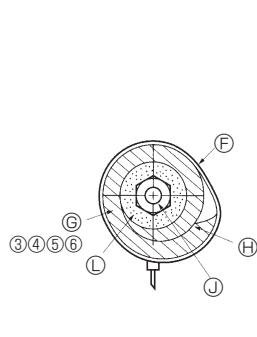
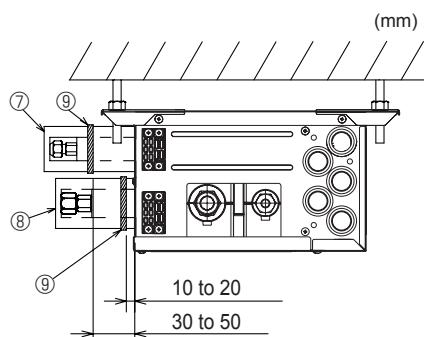

Fig. 7-3
Fig. 7-4
- (1) Remove the flared nuts and caps from the branch box.
- (2) Flare the ends of the liquid and gas piping, and apply refrigeration oil (procure locally) to the flared seat. Do not apply oil to the threaded portion.
- (3) Connect the refrigerant piping immediately. Always tighten the flared nuts to the torque specified in the table 2 using a torque wrench and double spanner.
- (4) Press the pipe covers ③ and ⑤ on the liquid piping against the unit and wrap to hold in place. (Fig. 7-3)
- (5) Press the pipe covers ④ and ⑥ on the gas piping against the unit and wrap to hold in place. (Fig. 7-3)
- (6) Apply the supplied bands ⑨ at a position 10 - 20 mm from each end of the pipe covers (③④⑤⑥).
- (7) If the indoor unit is not connected, fit the supplied pipe covers (with caps, ⑦ and ⑧) to the branch box refrigerant piping connections against the unit to prevent condensation dripping from the pipes. (Fig. 7-4)
- (8) Clamp the pipe covers (⑦⑧) in place with the supplied bands ⑩.
- ③ Band ⑨
- ④ Pipe covers ③④⑤⑥
- ⑤ Tighten
- ⑥ Refrigerant piping
- ⑦ Thermal insulation for refrigerant piping
► Use the following procedures for indoor connection part which indoor unit is not connected. (Fig. 7-4)
- (1) In order to prevent refrigerant leaks, make sure that the flare nuts are tightened according to the specified torques* in Table 3.
- (2) In order to prevent condensation, install the pipe covers ⑦ ⑧ against the unit and fasten them with the supplied bands ⑨ .